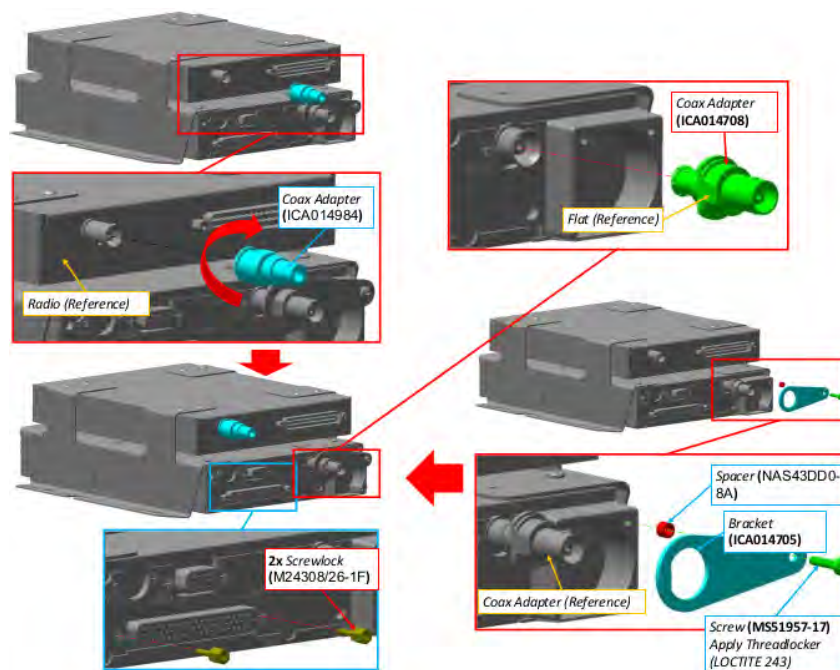

FIGURE 14-69
- h. Install 2x female screwlocks (M24308/26-1F) into transponder as shown. (See Figure 14-69.)
- i. Install Coax Adapter (ICA014984) into receptacle on front of transponder as shown. (See Figure 14-69.)
- j. Install Coax Adapter (ICA014708) onto radio coax jack as shown. Align center pin and twist clockwise to engage the locking mechanism. (See Figure 14-69.)
- k. Install Coax Bracket (ICA014705) spacer (NAS43DD0-8A) and screw (MS51957-17) into transponder. Ensure bracket is fully seated on coax adapter. (See Figure 14-69.)